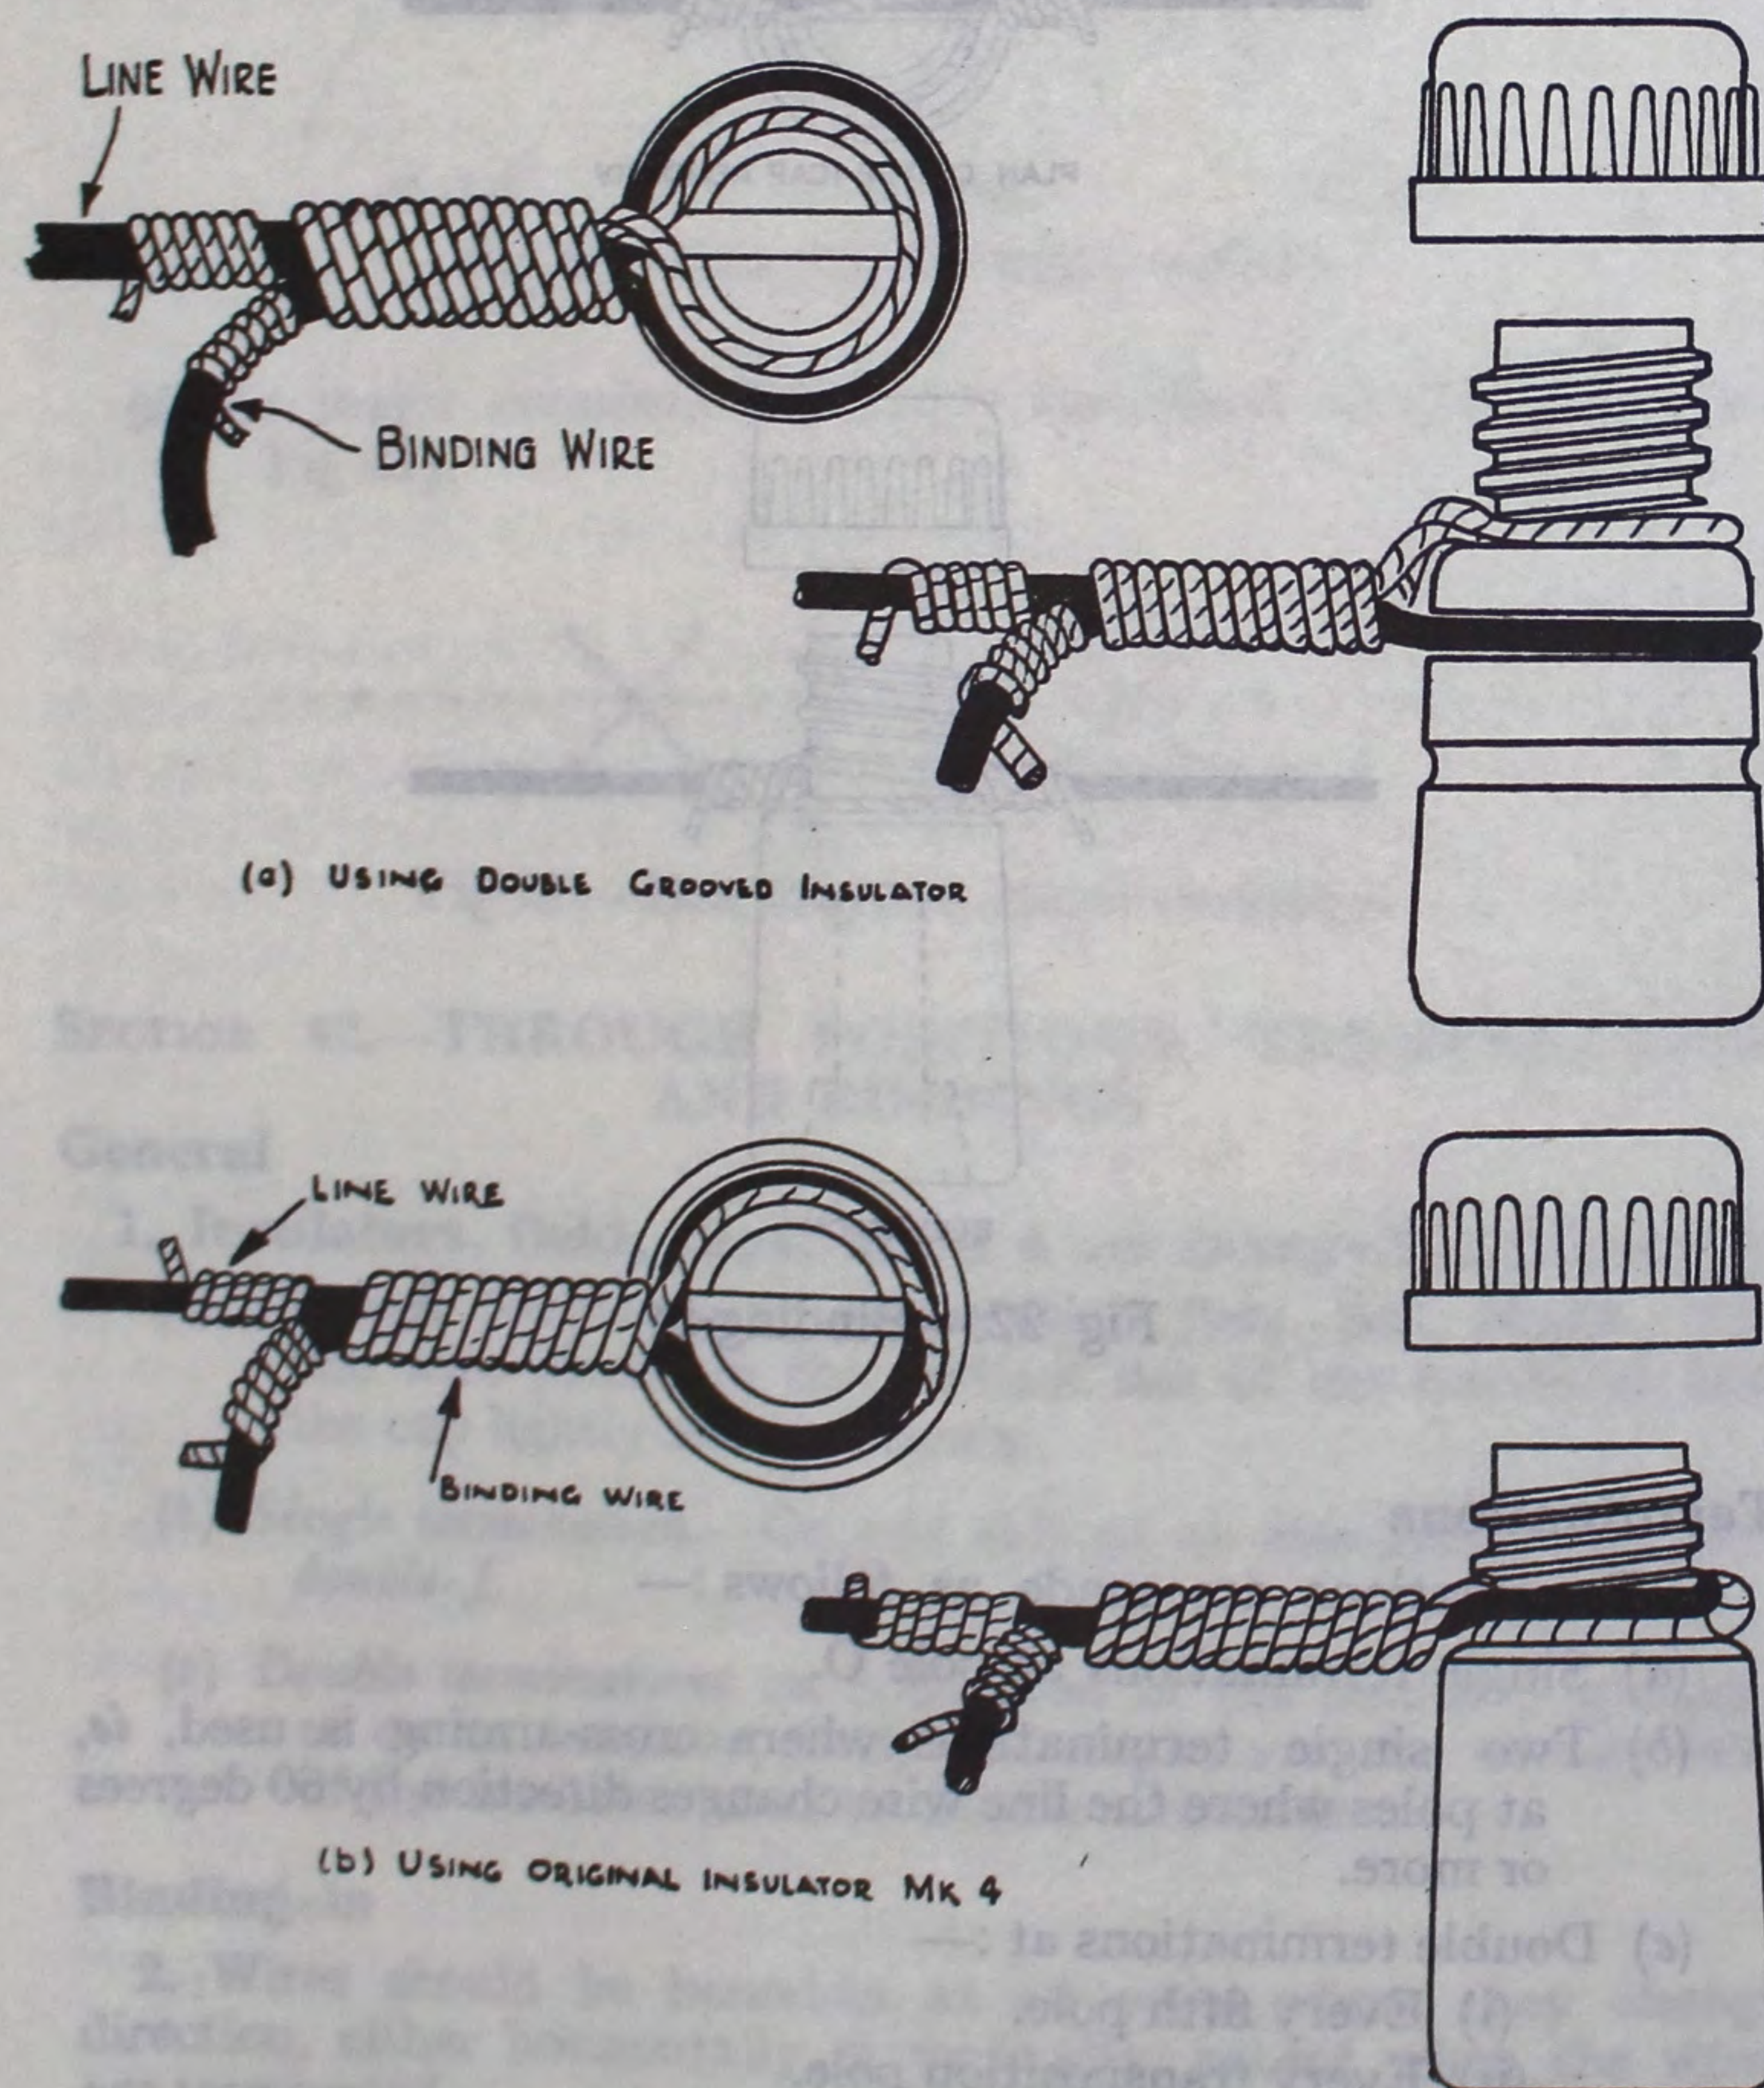

Fig 23.—Single terminations
5. A single termination (see Fig 23) is made as follows:—